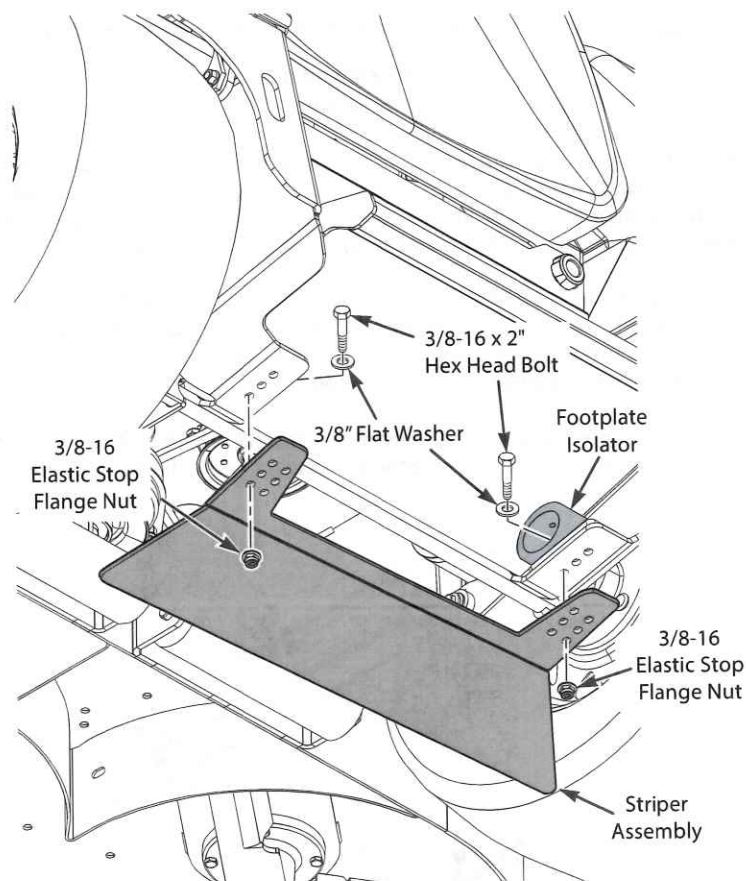

Figure 2. Install Striper Assembly
4. Install the striper assembly along with the LH & RH footplate isolators to the frame of the machine. Secure with two (2) 3/8-16 x 2" hex head bolts, two (2) 3/8-16 elastic stop flange nuts supplied with this kit, and the 3/8" flatwashers removed in the previous step. See Figure 2.